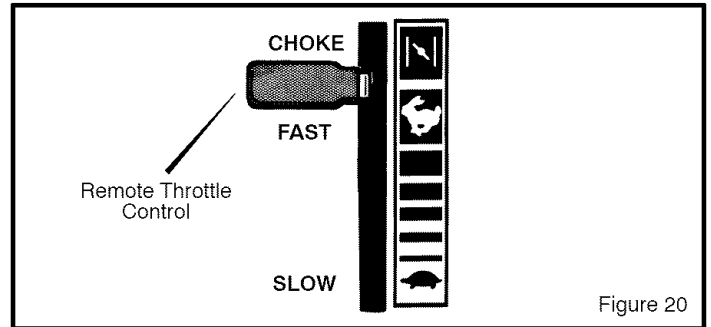

Figure 20
1. Move the **remote throttle control** to the FAST position (see Figure 20).
2. With engine running, put the **remote throttle control** in SLOW position (see Figure 20).